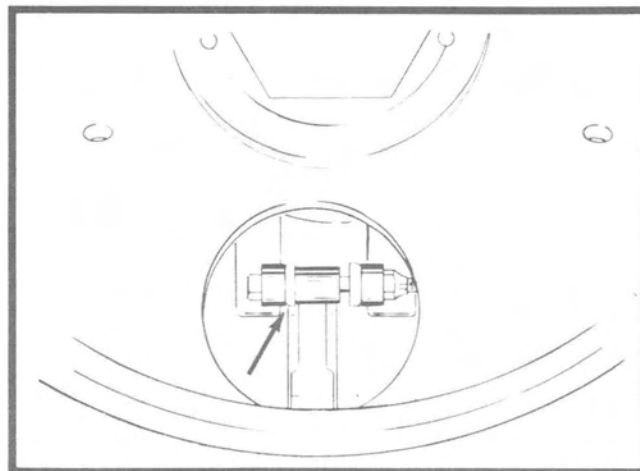

Figure 9. Roller Arm/Ramp - Contact
3. If there is contact between roller arm and ramp (Figure 9), the maximum allowable drive clutch bearing wear is not within tolerance. Drive clutch movable sheave and sheave housing must be replaced.